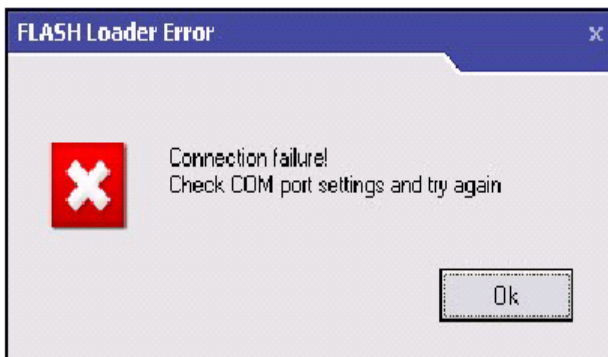

Fig 3) Error Message
**\*Note:** If the selected Com port is already allocated by some other application (e.g. HyperTerminal) the error message will be displayed such as FIG3].